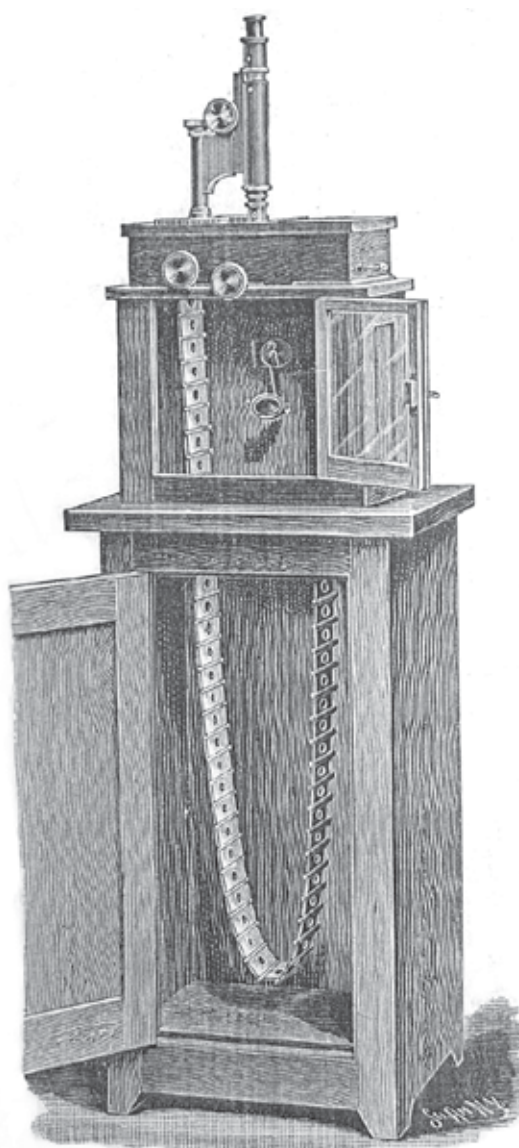

Fig. 4. Microscope for exhibiting ordinary mounted objects
For the purpose of exhibiting a series of preparations mounted in the usual way upon glass slips, an entirely different form of apparatus has been devised [figs. 4 and 5]. An indefinite number of slides from ten to a hundred are attached to an endless band of linen by means of thin brass holders which allow the slides to be changed where desired. This linen band passes over two rollers mounted upon a light brass frame which occupies the place of the stage of an ordinary
N.B. The microscope bodies utilized on the above two instruments appear to have been taken from stands by Zeissmayer (fig. 3) and Bausch and Lomb (fig. 4).